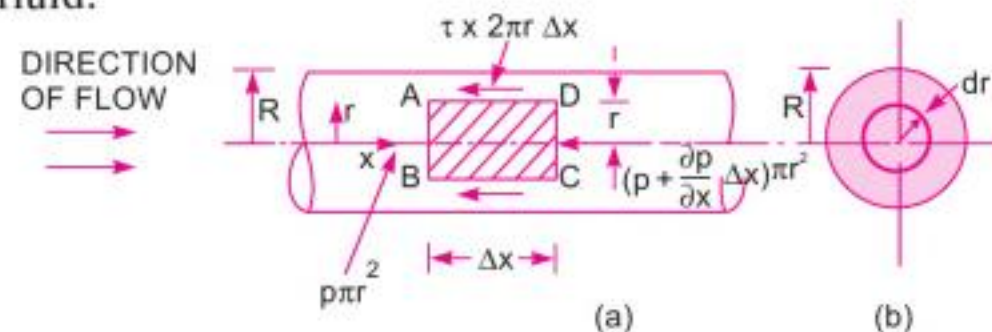

Fig. 9.1 Viscous flow through a pipe.
Consider a horizontal pipe of radius R . The viscous fluid is flowing from left to right in the pipe as shown in Fig. 9.1 (a). Consider a fluid element of radius r , sliding in a cylindrical fluid element of radius $(r + dr)$. Let the length of fluid element be Δx . If ' p ' is the intensity of pressure on the face AB , then the intensity of pressure on face CD will be $\left(p + \frac{\partial p}{\partial x} \Delta x\right)$. Then the forces acting on the fluid element are :
The average velocity, $\bar{u}$, is obtained by dividing the discharge of the fluid across the section by the area of the pipe (πR^2). The discharge (Q) across the section is obtained by considering the flow through a circular ring element of radius r and thickness dr as shown in Fig. 9.1 (b). The fluid flowing per second through this elementary ring